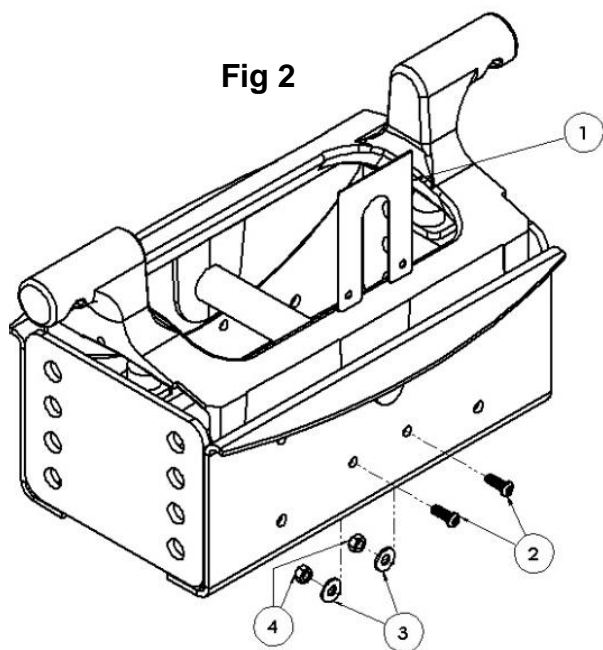

Fig 2
3. Slide one shim (1) between the pivot beam and inner side of center box as shown in Fig 2
4. Put bolts (2) through holes and add washer (3) and lock nut (4) to inside of assembly and tighten